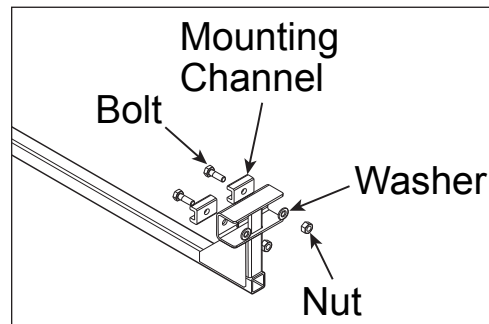

Figure 22: Fixed Webcam Arm Mounting
1. The webcam arm is shipped with all hardware and arm components. Remove the $\frac{5}{8}$ " nuts and washers from the arm assembly before installing the webcam arm. Refer to **Figure 22**.